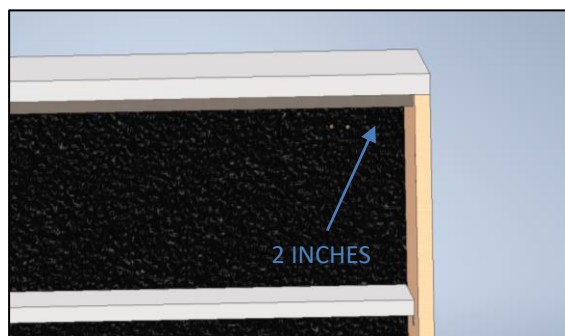

Figure 3
1. Drill a 3/16" hole into the false back near the back of the pedestal 2 inches from the end panel at the same height as the top pre-drilled hole (Figure 3).
2. Position and secure the filler back panel to that it is directly under the overhanging top panel and it is flush with both the outermost side of the pedestal using the #8 x 1-1/4" FHP screws provided with the pedestal or end panel. The screws will go through the false back located on the inside of the pedestal and into the filler panel through the holes that were just drilled (Figure 3).